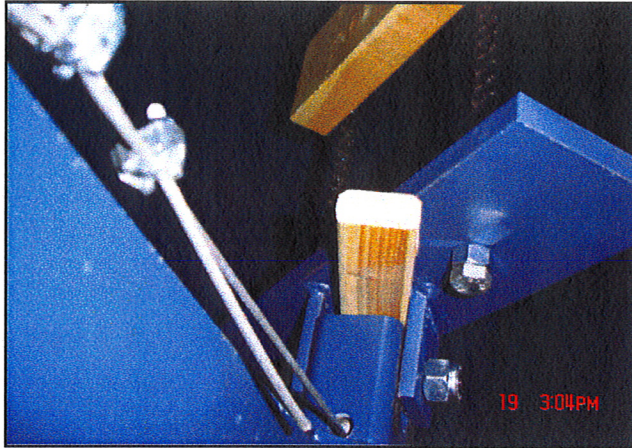

Figure 1
1. Do not remove any of the wood shipping blocks that are attached to any of the chain until the lift is completely standing and chains are all connected. See Figure 1.